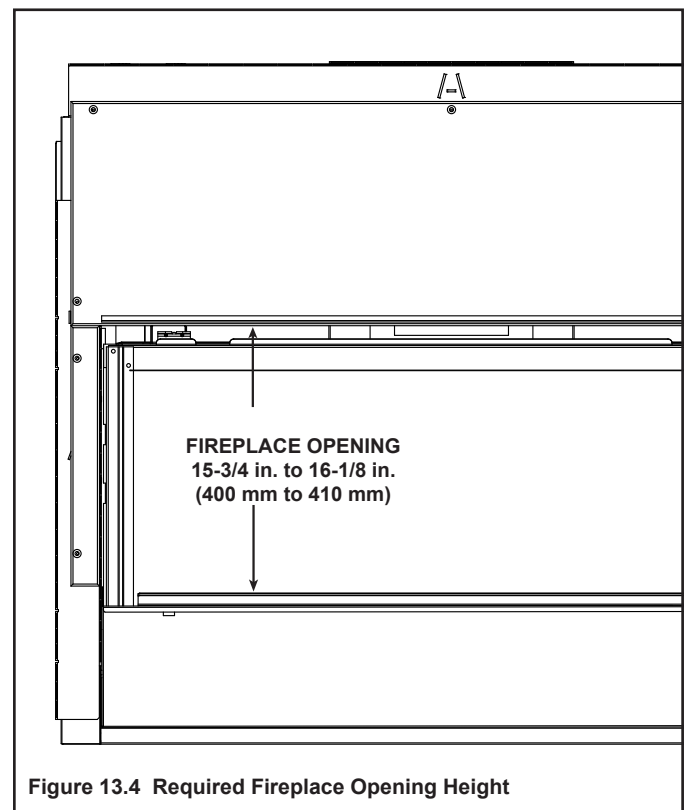

Figure 13.4 Required Fireplace Opening Height
**Note:** The lower cover panel must be pushed all the way down. The outer finishing flanges should line up. The fireplace opening must be between 15-3/4 in. (400 mm) and 16-1/8 in. (410 mm) for the decorative fronts to fit correctly. See Figure 13.4.